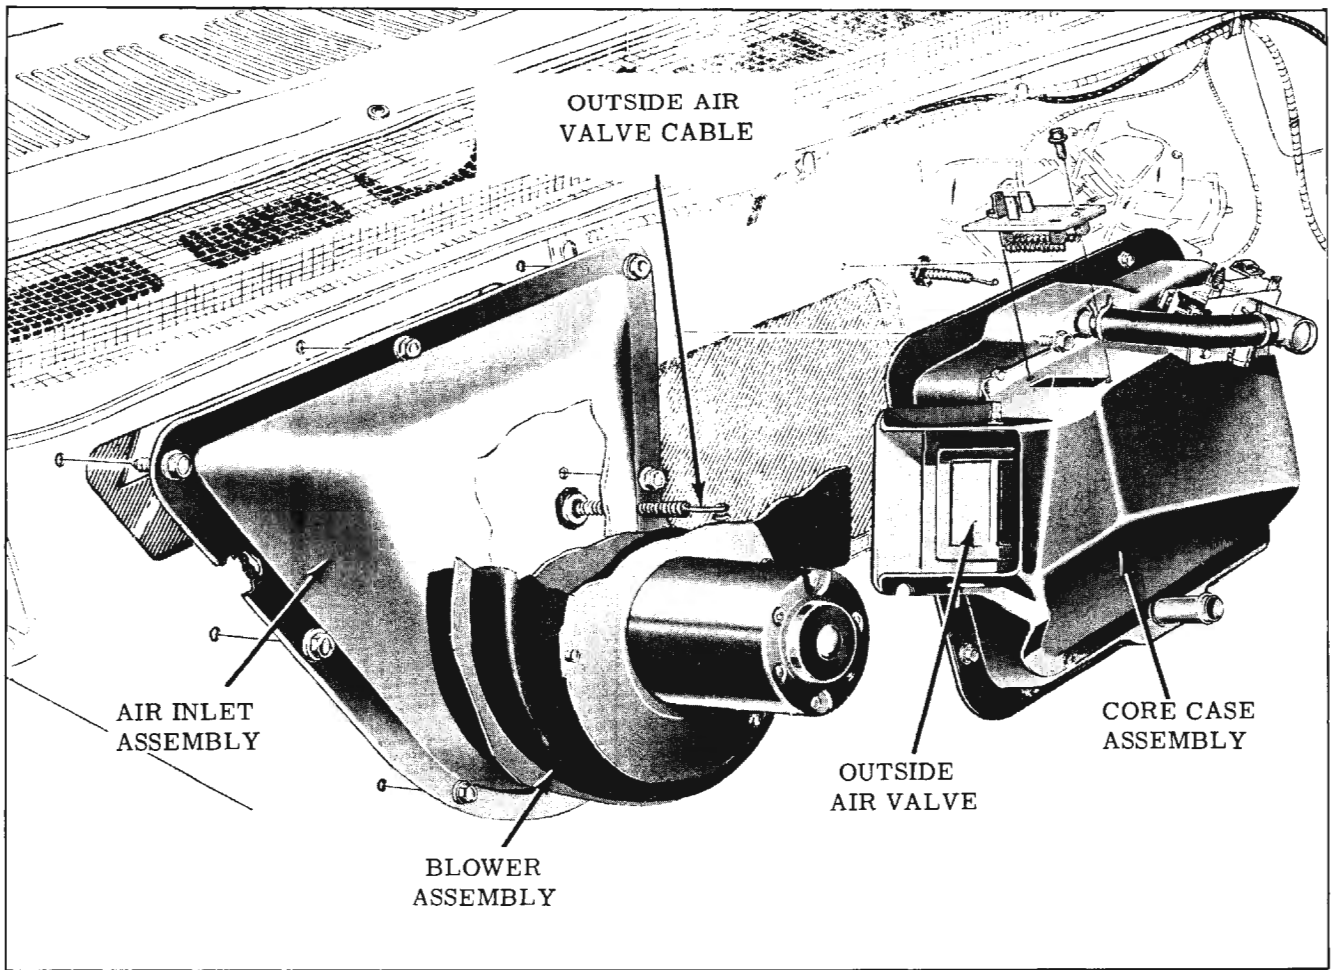

Fig. 15-109 Blower, Air Inlet Assembly, Valve Body and Heater Core Assembly
4. Disconnect heater wiring harness from resistor. Disconnect water valve control cable from valve. (Fig. 15-109)